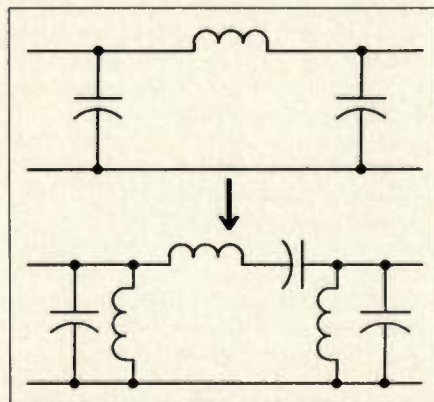

Figure 1. Lowpass filter transformed to bandpass filter.
The design of bandpass filters using the lowpass to bandpass transformation technique is well known and documented (1). The transformation involves series resonating each series element in the lowpass prototype and parallel resonating each shunt element. This technique is illustrated in Figure 1. In other words, each series element becomes a series tuned circuit and each shunt element becomes a parallel tuned circuit.